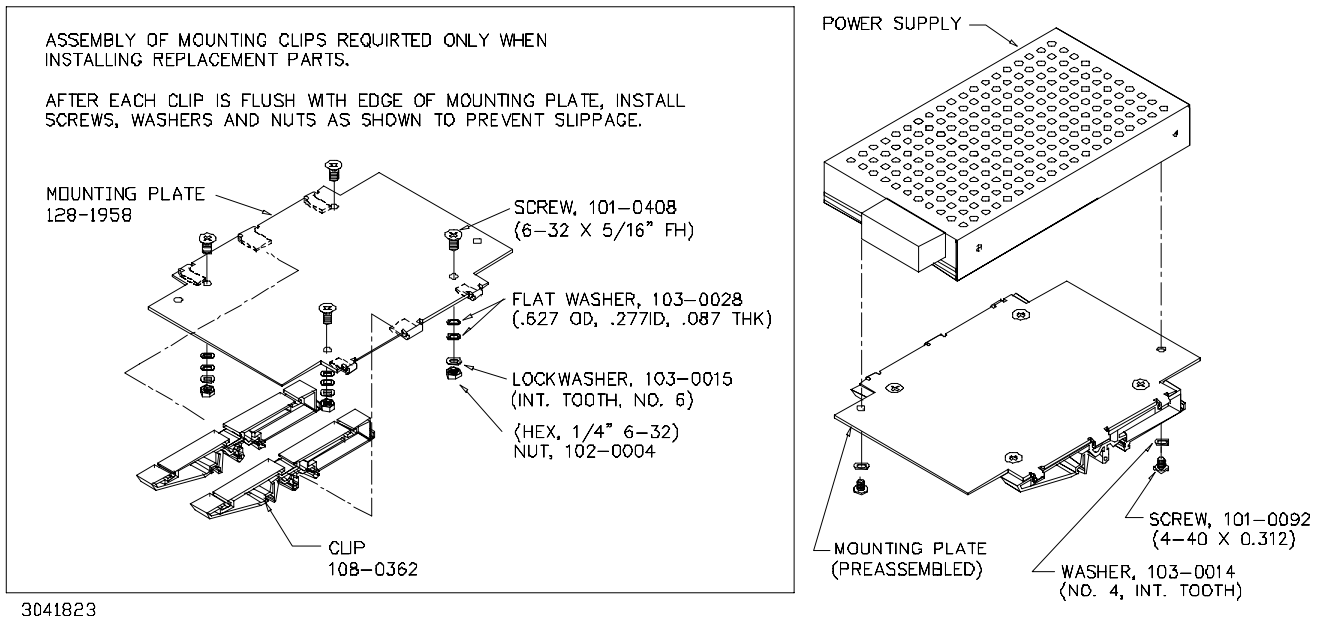

FIGURE 3. INSTALLING CLIPS ON POWER SUPPLY
NOTE: Clips are supplied preassembled on mounting bracket. To replace a mounting clip order the clip and bracket and assemble per Figure 3 detail.
2. **INSTALL MOUNTING BRACKET WITH CLIPS.** Attach mounting bracket to power supply using hardware supplied (see Figure 3).